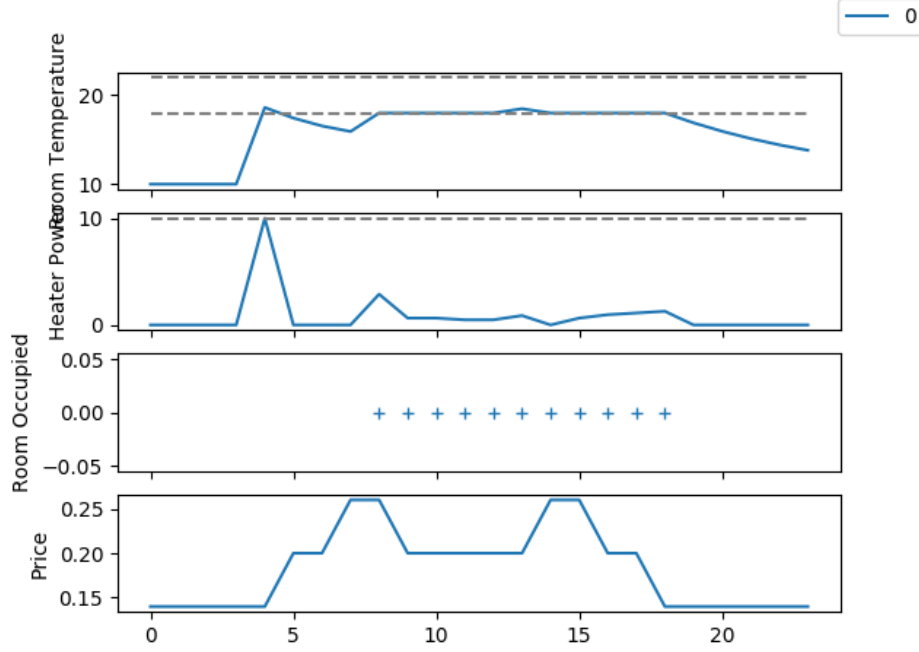

Figure 7: HVAC 1 by 1 instance solution.
- a) See `hvac_solver.py`, and figures 7 and 8. Overall cost is \$3.53, \$65.99 for 1 by 1 instance and 6 by 6 instance respectively.